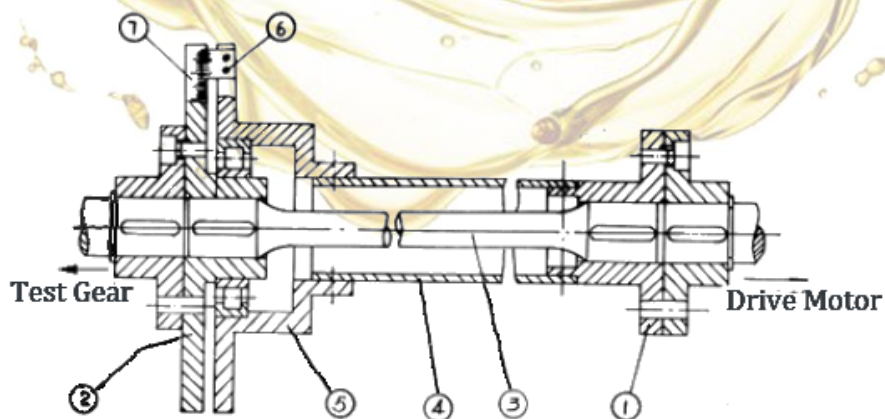

Fig.4 Torque measuring clutch
The torque measurement clutch device is shown in Fig.4, which mainly includes: small connecting flange (1), large connecting flange (2), torque shaft (3) inside the outer tube (4), indicating flange (5) with Vernier caliper scale (6) and scale (7) on the large connecting flange (2). After loading, the elastic shaft (3) in the closed-loop system of the tester is twisted and deformed, and the "torque" can be read out through the vernier caliper.